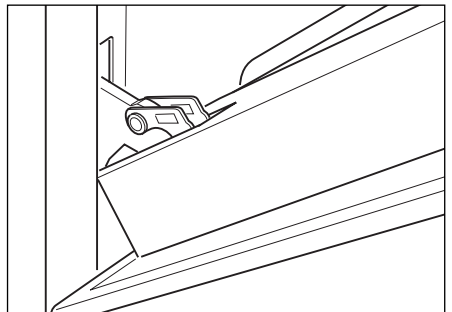

Fig.25d
- Gently close the door until left and right hinge levers "A" are hooked to part "B" of the door (Fig. 25d).